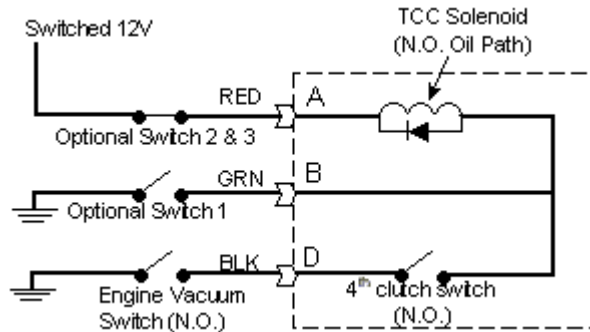

Figure 5 - Electrical Schematic for All 700-R4s & 200-4Rs
Step 6 Refer to **Figure 5**. If you desire more control over the TCC you have a few options: Option 1 will allow you to manually lock up the torque converter in 2nd gear, 3rd gear and/or 4th gear by running the green wire (Terminal B) to a grounded dash mounted toggle switch. Option 2 is for drivers that may want to shut down the TCC system through a second dash mounted toggle switch between to the red wire on the TCI® external harness (Terminal A) and the switched 12-volt source. Now, you may manually turn the lock up system completely on and off.